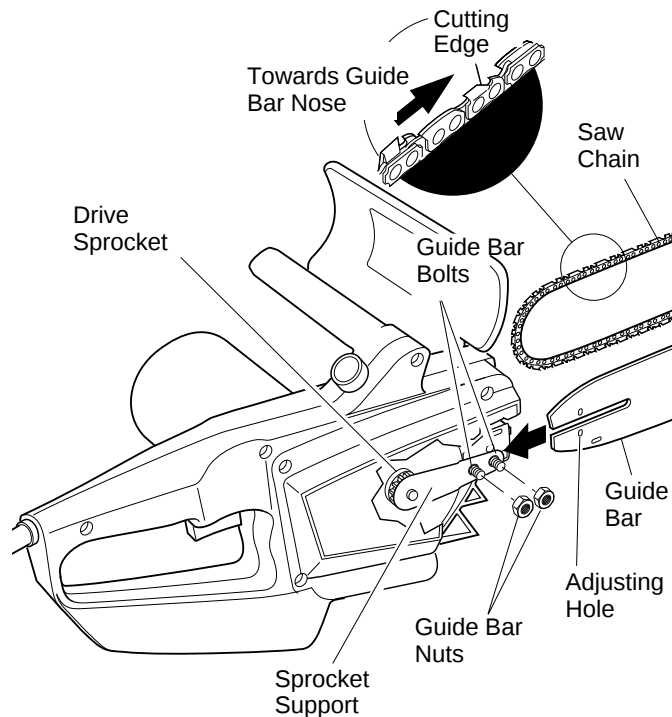

Figure 3 - Assembling Guide Bar, Chain, and Hand Guard
2. Remove guide bar nuts from guide bar bolts (see Figure 3).
6. Place chain around drive sprocket, then along top groove of guide bar and around guide bar nose. **Note:** Make sure cutting edges of chain are facing the right direction. Position chain so cutting edges on top of guide bar face guide bar nose (see Figure 3).
1. Before adjusting chain, make sure guide bar nuts are only finger tight (see Figure 3, page 6). Also make sure adjusting block is in oval adjusting hole on guide bar (see Figures 3 and 4, page 6).